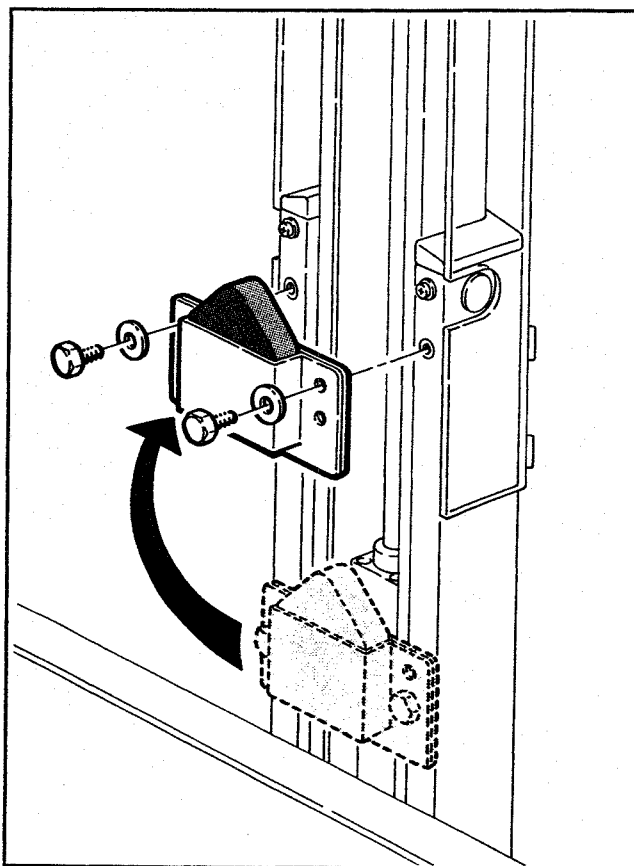

Figure 5-4 - Stop Bumpers
Box Height Range - Refer to Figure 5-4
2. Remove and retain the screws, washers and bumper stop assembly on both side columns of the main frame (Figure 5-4).